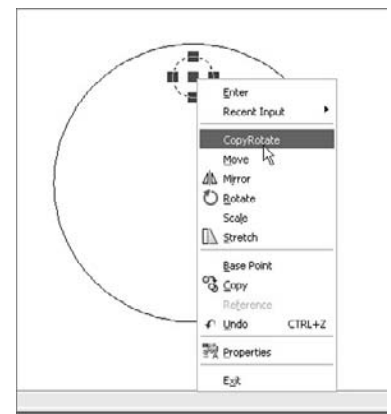

Figure 3.25
6. Drag the command onto the Grips menu. The result is shown in Figure 3.25.